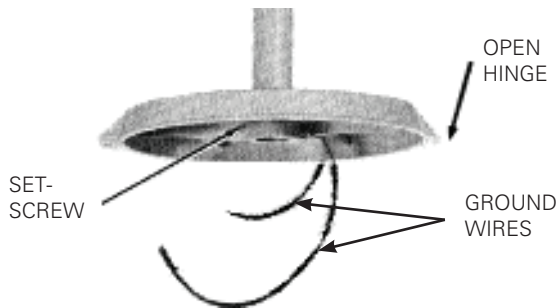

FIGURE 1
- Pendant, Stanchion and Quad mount: Securely thread onto the appropriate NPT size conduit. Tighten setscrew located in the conduit hub. See Figure 1.